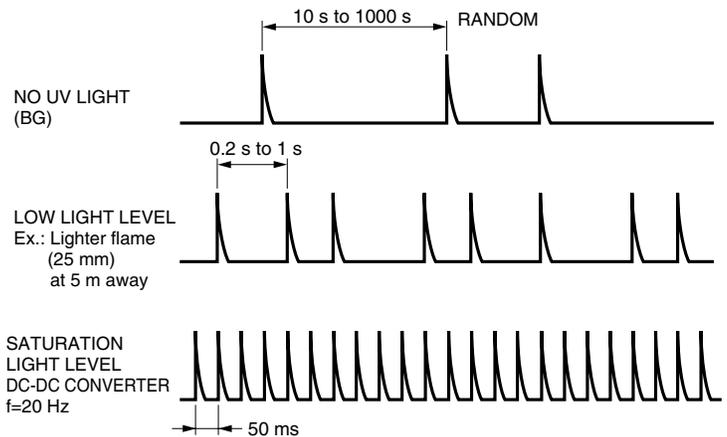

Figure 6: UVTRON Output Pulses
The next point that must be considered is the background (BG). The BG is caused by sporadic discharges that occur due to radiation such as cosmic rays and static electricity, even if no ultraviolet light enters the UVTRON. Figure 6 also shows this phenomenon. When detecting ultraviolet light with the UVTRON, the BG causes false operation if the output pulses are directly used as the detection signals. Therefore, the signal must be processed to cancel out this background.